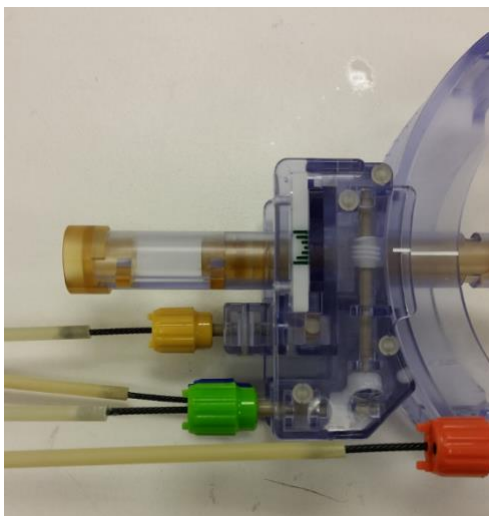

Figure 11: Attachment to Thumb Wheels
2. Attach the distal ends (wings) of the Thumb Wheel Extension Set to the matching colored thumb wheels on the SMARTFrame XG. **See Figure 11.** You may need to rotate the Thumb Wheel Extension Set thumb wheels to properly orient the wings into the SMARTFrame thumb wheels. The wings should slide to the bottom of the thumb wheels and seat into place.